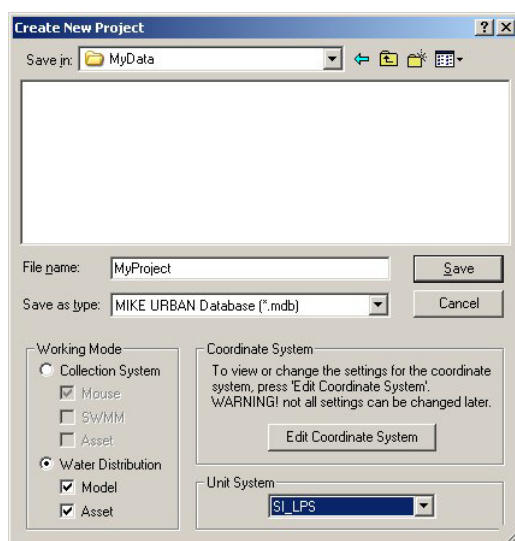

Figure 11.1 Creating a new water distribution system project
2. On the dialog that comes up, see Figure 11.1, choose location and name of your database